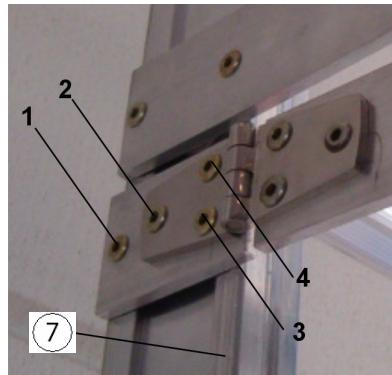

Figure 3
- Place the intermediate plate 8 mm below the hoop bracket (see figure 3).
- Drill a hole in the ladder upright pos. 1. Ensure the central hole is in the groove of the ladder upright (figure 3, pos.7).
- Pop rivets pos. 3 and 4 through the hinge, intermediate plate and ladder upright.